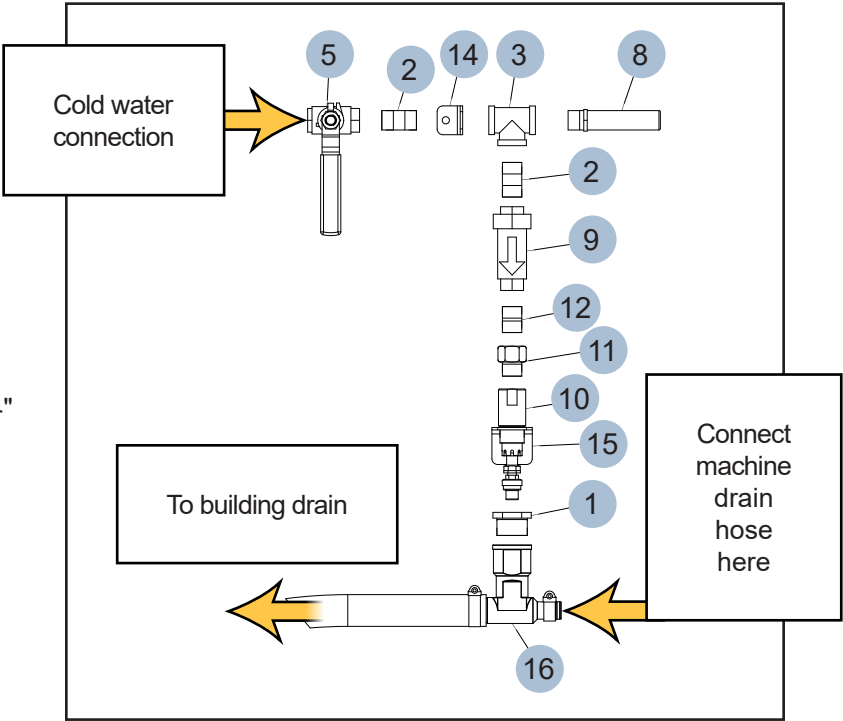

Fig. 23 - Drain Water Tempering Components
- 1. Assemble the drain water valve parts (see Fig. 23).